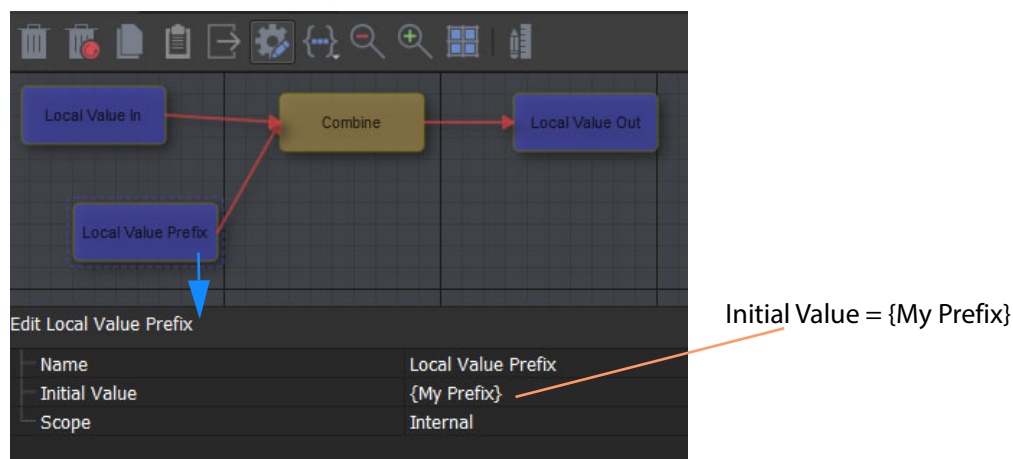

Fig. 10-13: Prefixing Custom Logic
- 7 Add a **Local Value** Behaviour, 'Local Value Prefix', with 'Scope' = 'Internal'. And set its 'Initial Value' = '{My Prefix}'. (Using the curly braces, { }, specifies the *value* of the variable 'My Prefix'), See Figure 10-13.